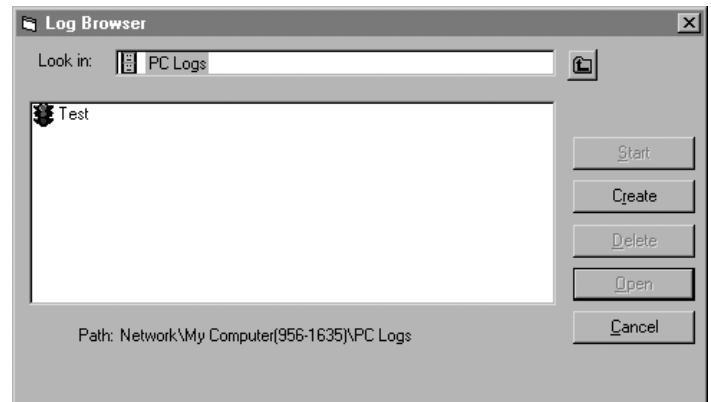

Figure 16: Create a PC log
3. Double click on *PC logs* to advance to the dialog box shown in *Figure 16*. below.
4. At the dialog box shown in *Figure 16* above, click on the [Create] option button to create a new meter log.